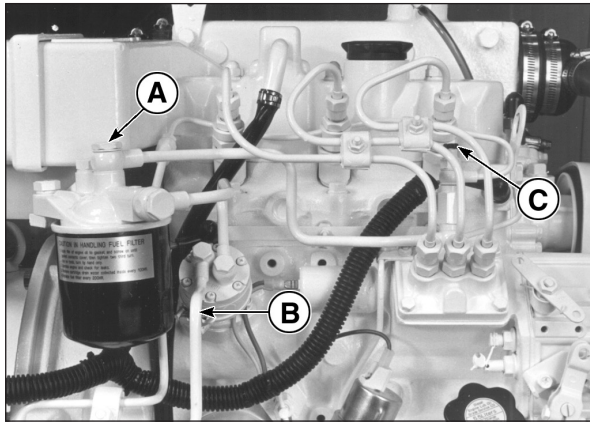

Figure 11: Fuel System.
2. Loosen bleed bolt “A” (Figure 11) on top of the filter. Pump hand primer “B” on fuel lift pump until pure fuel (no bubbles) escapes from bleed bolt “A”. Tighten bleed screw “A”.